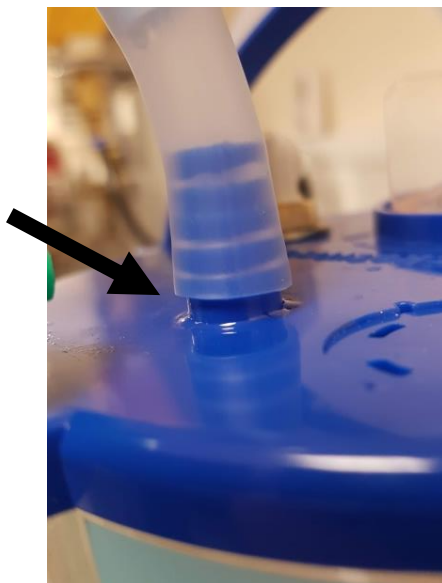

Figure 2A. Push the Filter Connector Assembly firmly onto the lowest ring of nozzle.
- 2.5. Firmly push the tube end of the Filter Connector Assembly onto the exposed nozzle on the Bottle, so that only one of the rings on the nozzle is visible (see Figure 2A).
- 8.6. Attach the cut piece of tube to the blue connector. Ensure the tube is pushed to the end of the blue connector so that there is no more than a 5mm gap (see Figure 2A).